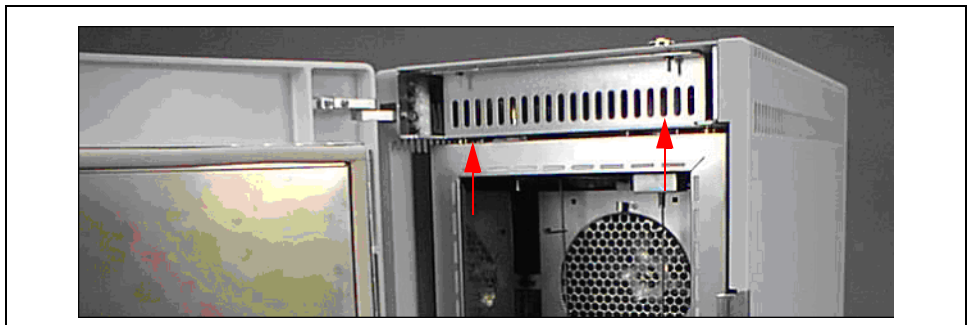

Figure 15-6. Top Aluminium Cover Removal (1)
2. Unscrew the two front screws, as shown in Figure 15-6, which remain on the main unit.